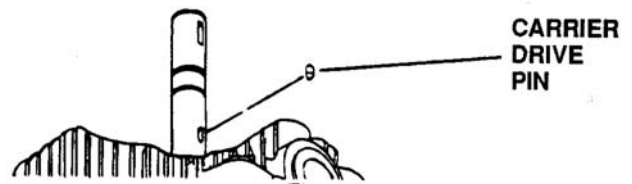

Figure 6-123. Installing Carrier Drive Pin
- Lubricate carrier drive pin and install in keyway of input shaft. Use a small amount of petroleum jelly or equivalent to hold pin in place. See Figure 6-123.